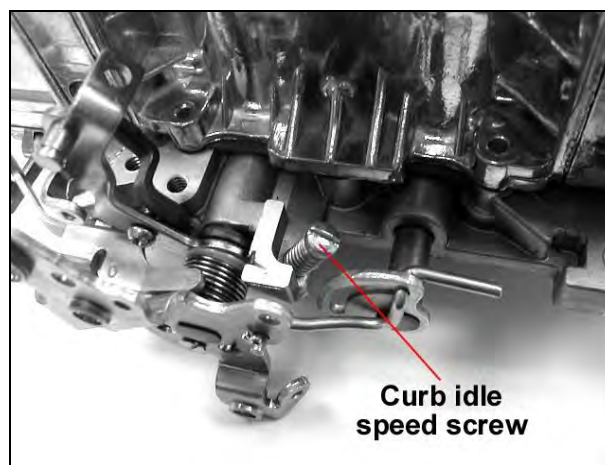

Figure 10
- Now that the idle mixture is set, it may be necessary to go back and reset the idle speed using the curb idle speed screw, as shown in Figures 10.